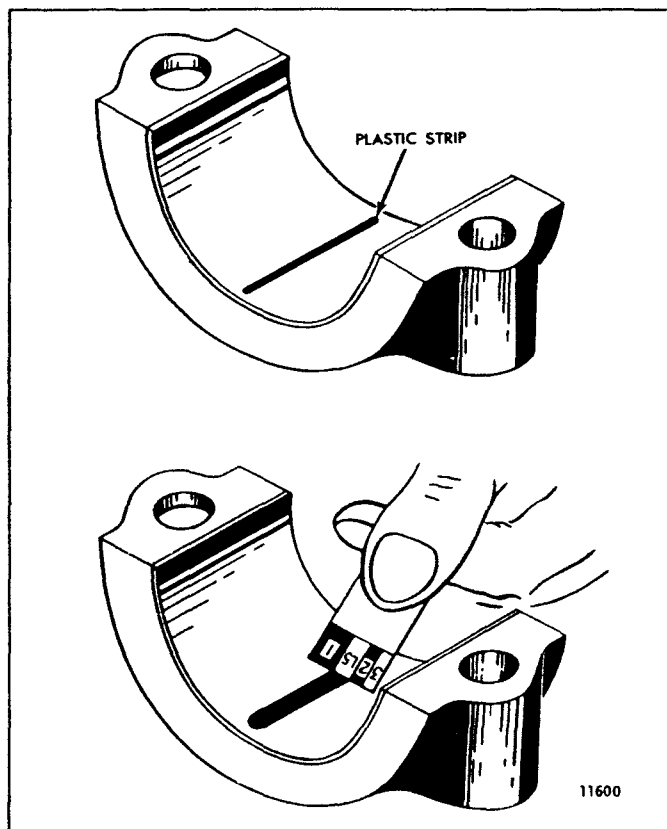

Fig. 1 - Using Plastic Strip to Measure
2. Place a piece of the plastic strip the full width of the bearing shell, about 1/4" off center (Fig. 1).
5. Compare the width of the flattened plastic strip at its widest point with the graduations on the envelope (Fig. 1). The number within the graduation on the envelope indicates the bearing clearance in thousandths of an inch. Taper may be indicated when one end of the flattened plastic strip is wider. Measure each end of the plastic; the difference between the readings is the approximate amount of taper.